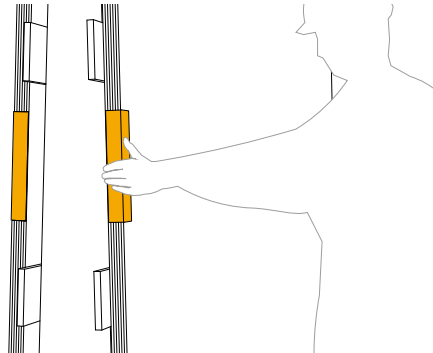

Abb. 4
- Schutzkappen für die Außenkanten (Abb. 4)
It is also wise to place a wooden board over the feet of the structure on which the load is to be placed to protect the material when the bundled is lifted (fig. 3). So as not to damage the slabs during handling with chains, it is finally preferable to use 2 wooden boards to protect the surface (fig. 4).